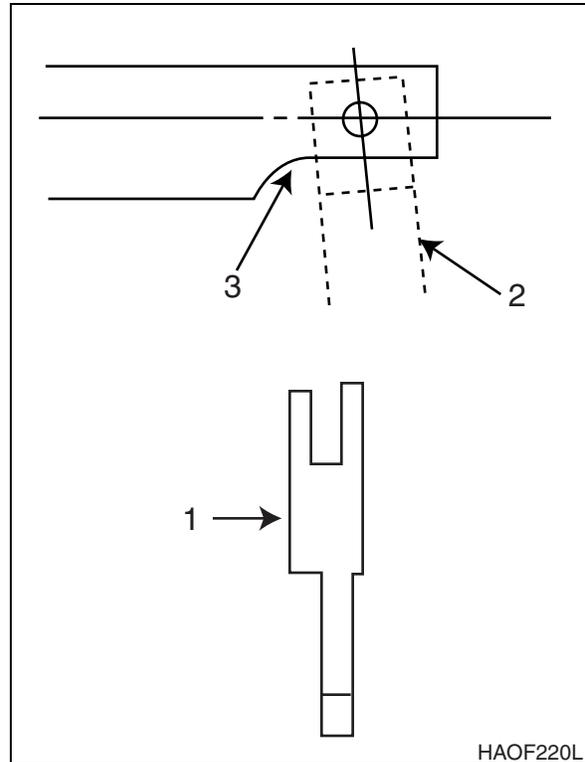

Figure 42
**NOTE:** The notched portion of spool should face down when mated into feedback lever for correct pin alignment. (Figure 42)